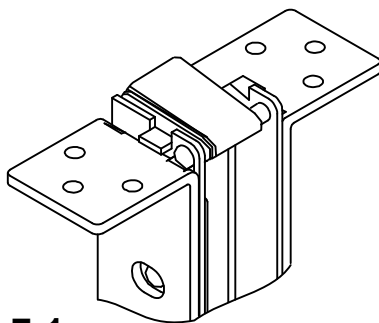

Figure 7-1
1. Depress push bar. Top latch bolt should be retracted as shown (figure 7-1) and bottom latch clears floor and bottom strike (figure 7-2).